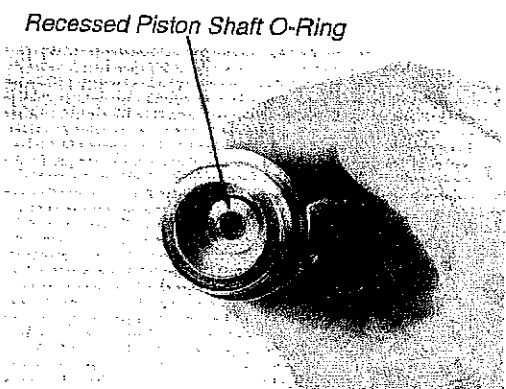

Fig. 6A
14. Viewing the main body through the internal cavity, you will find the recessed o-ring(29) through which the piston shaft moves. (See fig. 6A.)